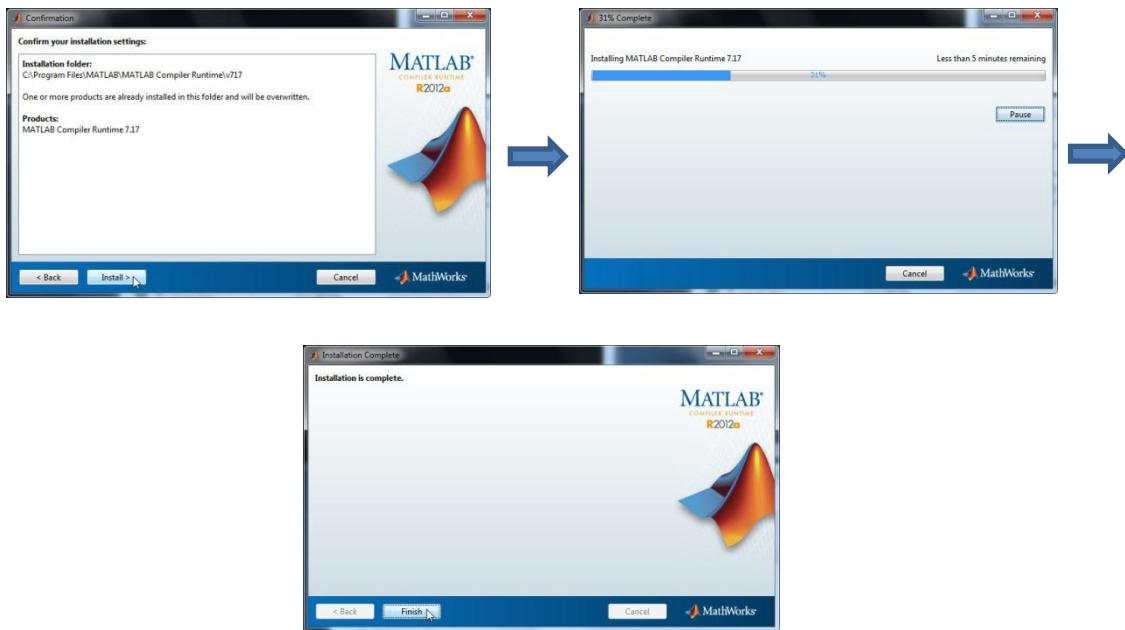

Figure 1-0. Installation of MATLAB Compiler Runtime. Please note that the actual version used may differ from the one shown here.
5. Once the MATLAB Compiler Runtime is extracted, it will automatically run. Please follow the instructions displayed and proceed with the installation, as displayed in Figure 1.0.